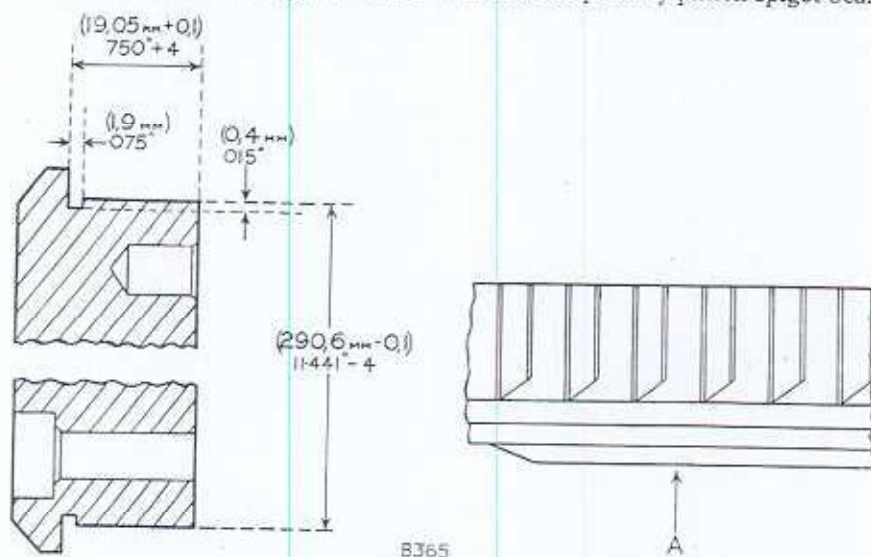

Fig. 1. A—Direction of pinion engagement.
2. Mount the flywheel in a lathe chuck, locating it on the crankshaft spigot. Machine the teeth off flush and turn the gear ring spigot to the dimensions shown at Fig. 1. The spigot diameter is .020 in. (0,5 mm.) greater than the bore of the new ring gear; the gear cannot be used as a gauge, as it may not be a true circle before fitting, so that if the volume of work demands, it will be advantageous to make a fixed gauge, rather than use a micrometer.